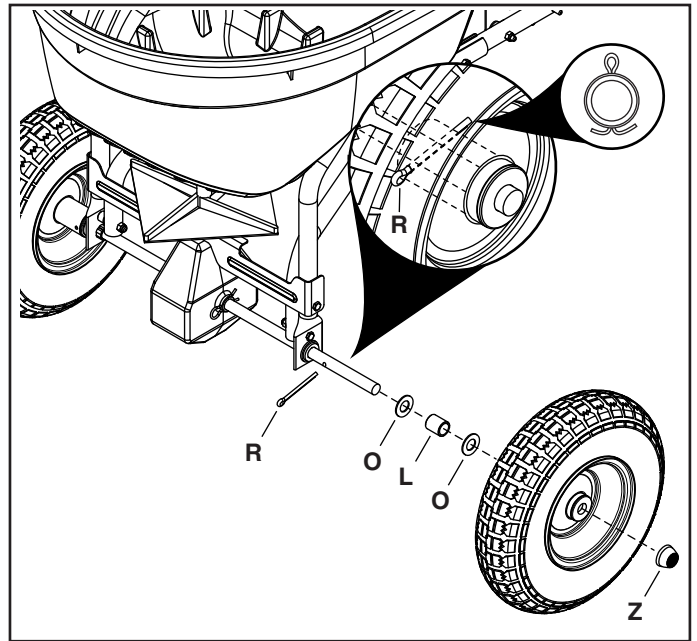

FIGURE 15
STEP 16: (SEE FIGURE 15)
- Slide a 5/8" washer (O), a spacer (L), a 5/8" washer (O) and a wheel onto the end of the axle with a hole.
- Secure the wheel to the axle with a 3/16" x 2" cotter pin (R), spreading both ends of the cotter pin.
- Carefully hammer a hub cap (Z) onto the axle.
(Refer to Figure 15 on page 7.)